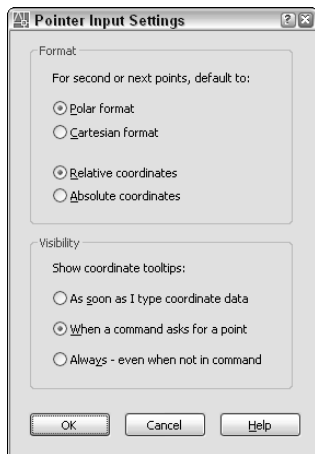

**Figure 4-4:** The Pointer Input Settings dialog box sets important options for Dynamic Input.
- ♦ **Default format for second or next points.** You can choose to default to polar or Cartesian format. The default is polar format, which shows distances. I explain polar format in the “Polar coordinates” section later in this chapter. You can also choose between relative and absolute coordinates, as shown in Figure 4-4. The default is relative coordinates, which indicate a distance and direction from a previously specified point. I explain both absolute and relative formats in the next few sections of this chapter.